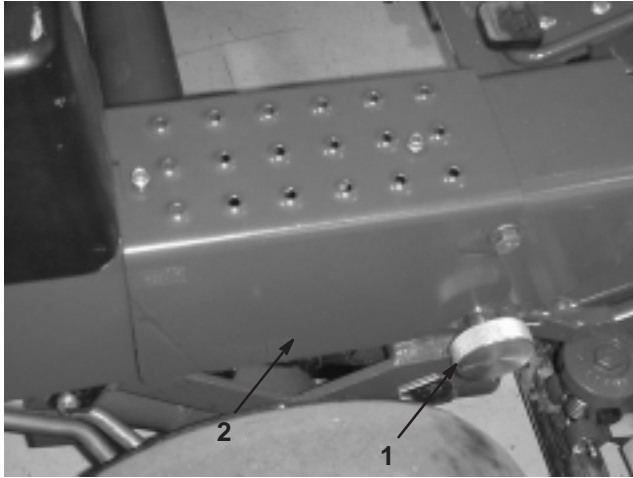

Figure 4
- Pivot the steering arm to the upright operating position (notches). Secure with locking knob and cotter pin (Fig. 4).
- Mount right step to frame with 2 self tapping screws (Fig. 4).